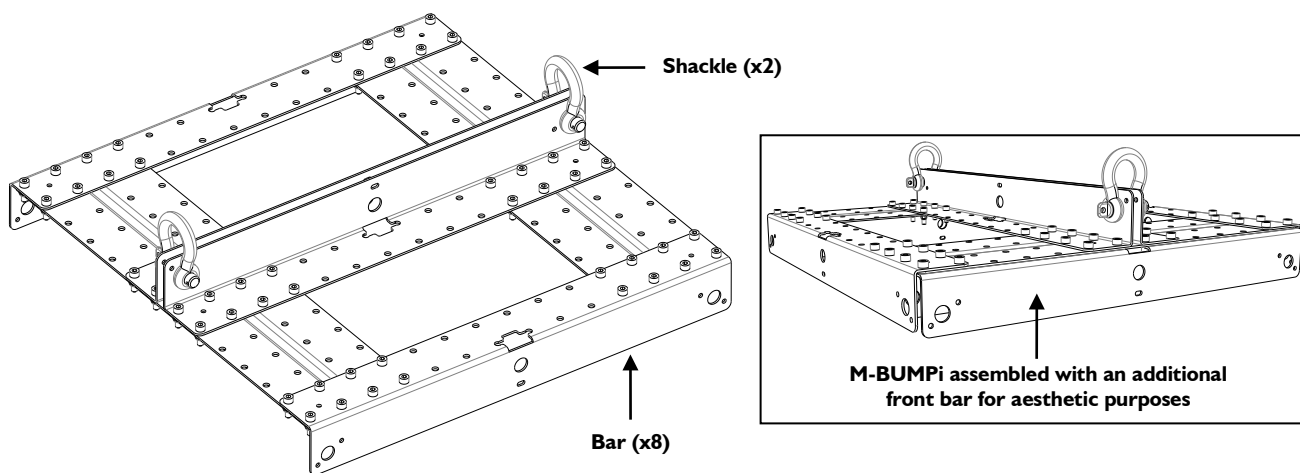

Figure 3: M-BUMPi rigging structure
**Note 1:** In flown configuration, the M-BUMPi can be assembled according to eight **rigging options** [9.1.1]. In particular, rigging option 0 allows assembling two M-BUMPi. In addition, a bar can be used for aesthetic purposes (see the right box in Figure 3).